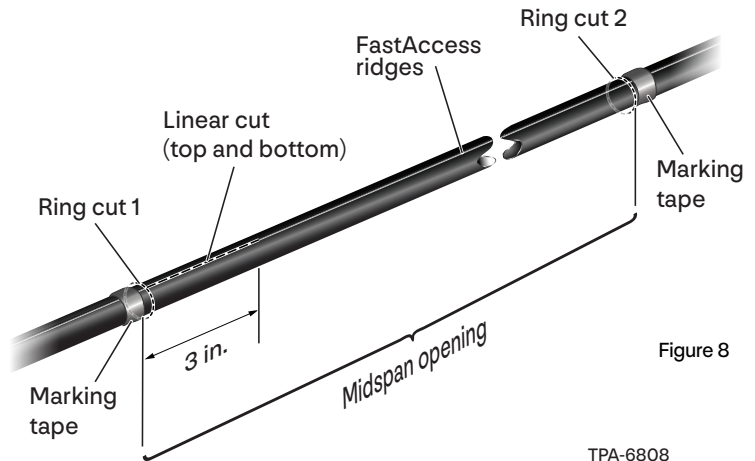

Figure 8
Step 1: With marking tape, mark ends of required mid-span opening (Figure 8).